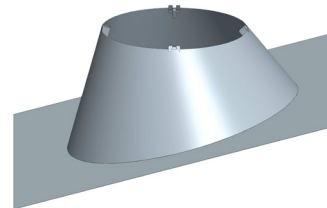

Figure 62 - Adjustable Flashing
The Adjustable Flashing (F30) is used in conjunction with Storm Collar (SC) for weatherization on a roof with a pitch 5° to 30°. See Figure 62.
1. Cut opening to dimensions specified in Table 3. See Figure 61 for flat roof and Figure 62 for a sloped roof.